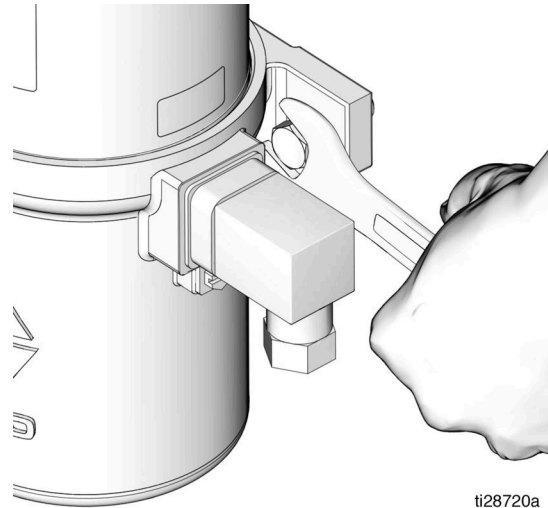

FIG. 11
7. Remove the mounting bolts (FIG. 11) and remove the pump from service.